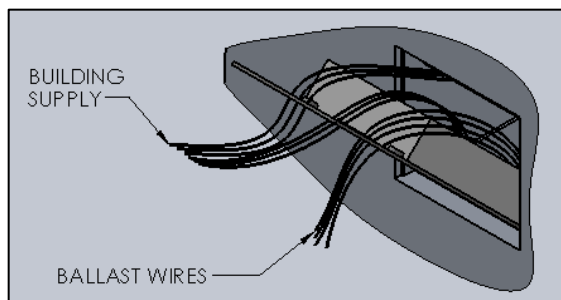

FIG. 14- DETAIL SHOWING BUILDING SUPPLY AND DRIVER WIRE CONNECTION
10. Make BUILDING SUPPLY wire connections and tuck them into the top section of the box leaving the DRIVER WIRES out as shown in FIG. 14.